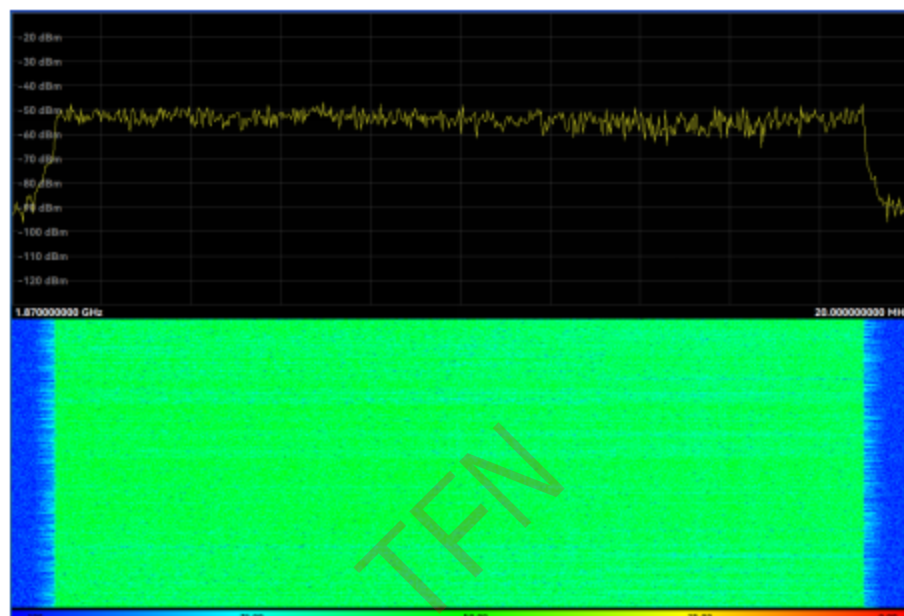

Figure 7.8 The waterfall diagram shows the results
Step 5. Observe the interference pattern waterfall diagram is shown in Figure 7.8: